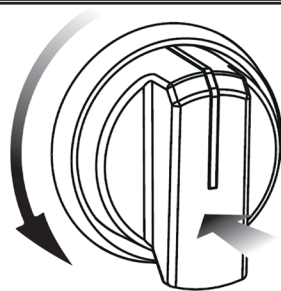

Fig. 3.5
1. Turn the gas tap knob counterclockwise (fig. 3.5), until it reaches its maximum capacity, press and hold down to activate the ignition. If there is no electricity, bring a flame to the burner.